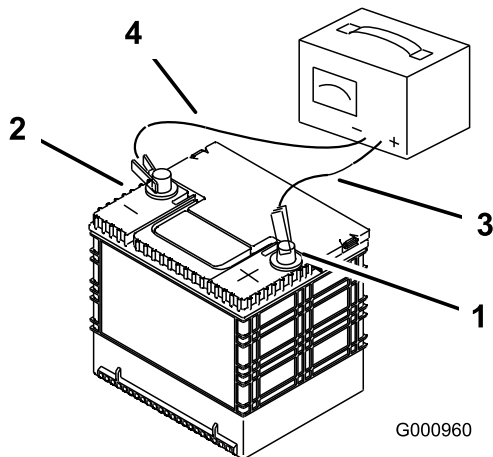

Figure 58
3. When the battery is fully charged, unplug the charger from the electrical outlet, then disconnect the charger leads from the battery posts (Figure 58).